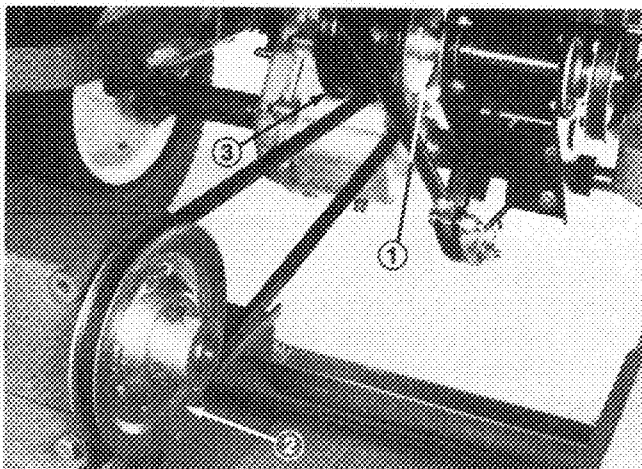

Figure 4
- Route V-belt around jackshaft pulley and gear box pulley (Fig. 4).
3. Raise idler pulley and position over upper portion of belt (Fig. 4)